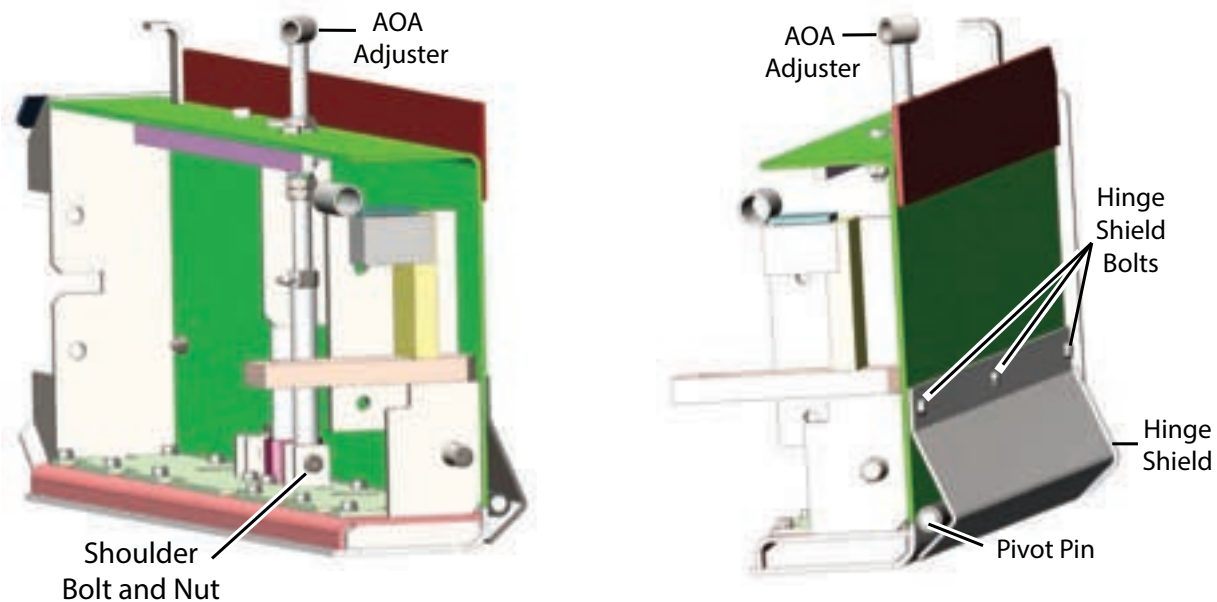

Figure 5-43. Wear Plate Replacement
3. Disconnect the extension AOA adjuster (**Figure 5-43**) on top of the wear plate by removing locknut, washer and shoulder bolt.